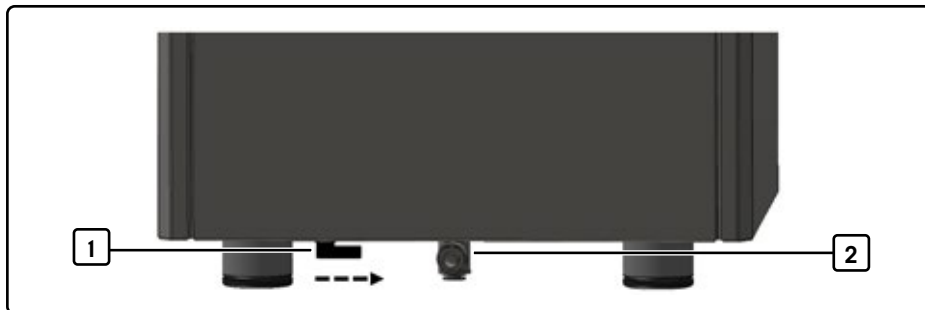

Fig. 3 Rear view with rotary valve and water connection nozzle
1. Move the rotary valve [1, Fig. 3] into the tank mode position. The valve points towards the water connection nozzle [2, Fig. 3].